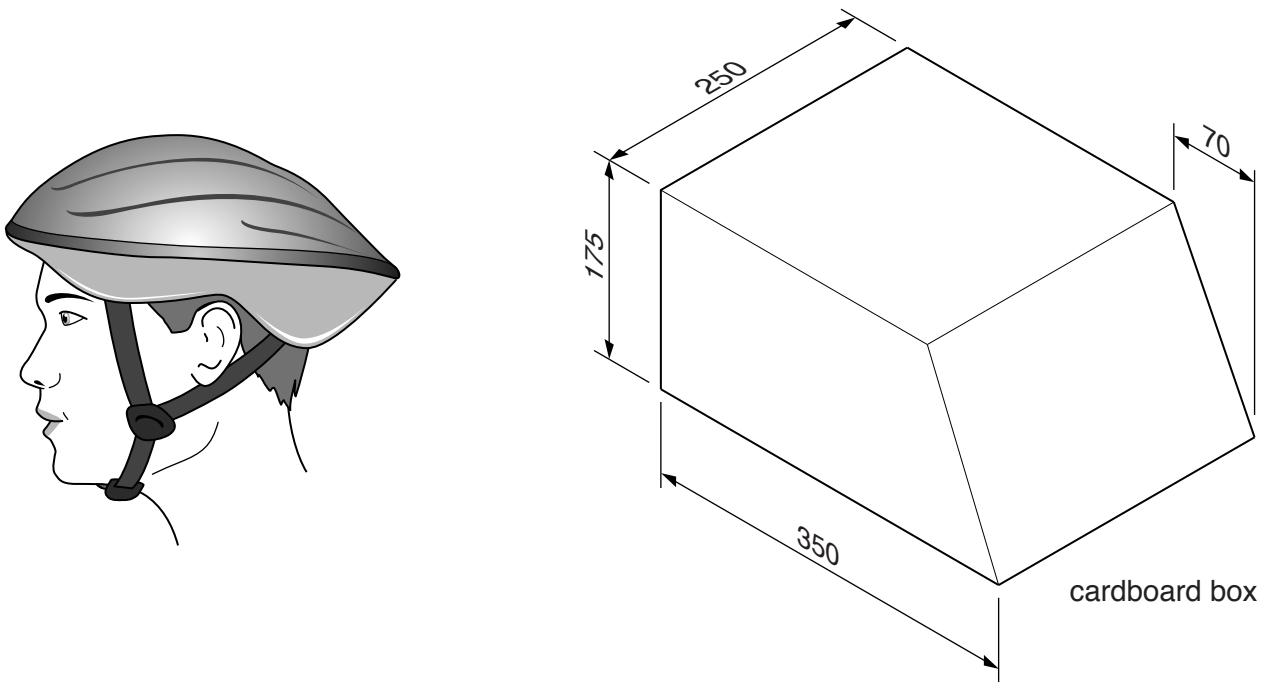

Fig. 9
- 8 Fig. 9 shows an incomplete idea for a cardboard box to package a bicycle helmet.